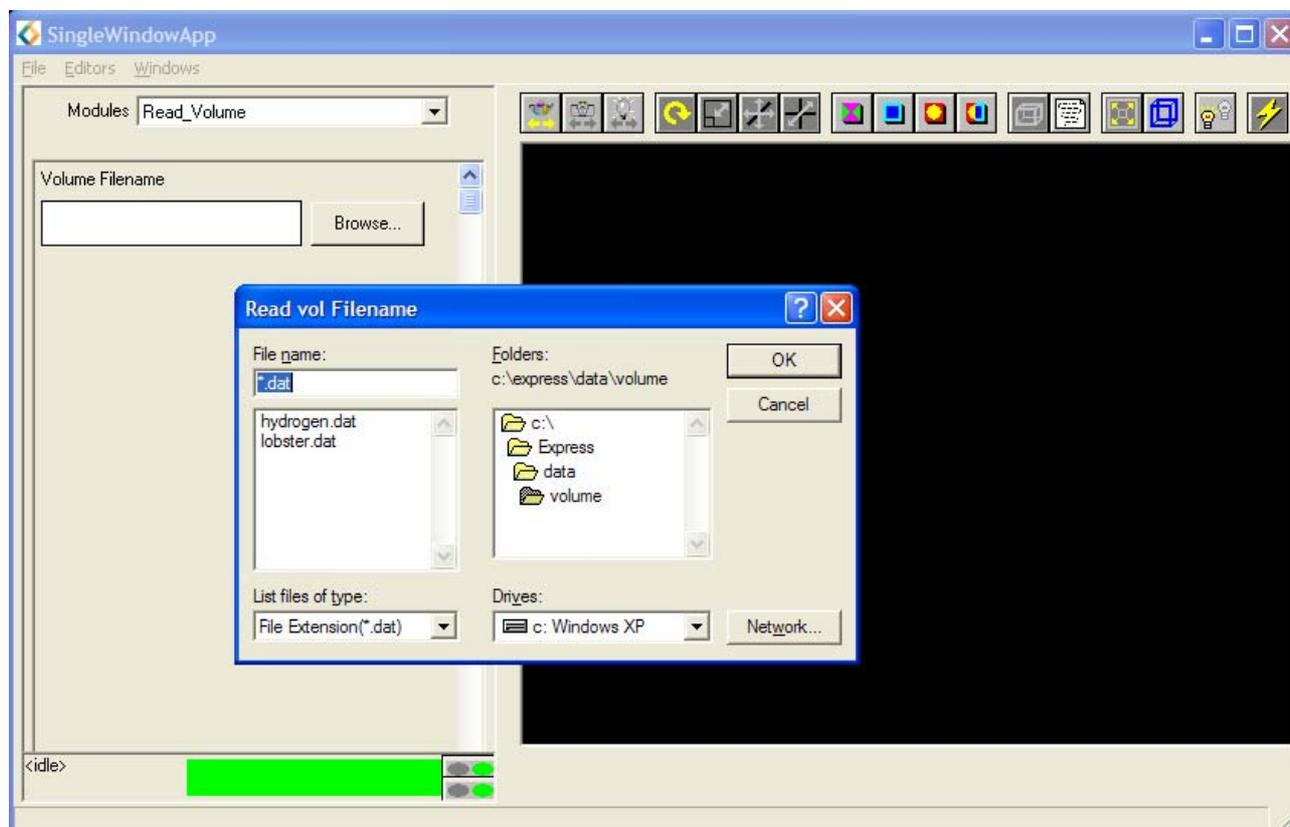

Figure 2.12: Data Viewer Pad with File browser
- Choose the `Read_Volume` module and select the **Browse** button. The file browser will now appear (Figure 2.12).